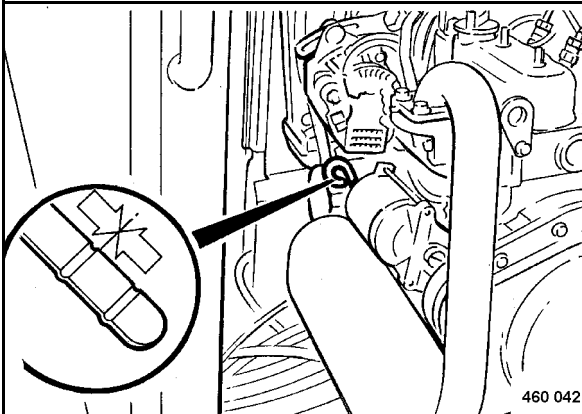

Fig. 78
- Pull the oil dipstick (Fig. 78) out, wipe it clean with a lint-free cloth and reinsert it until it bottoms.